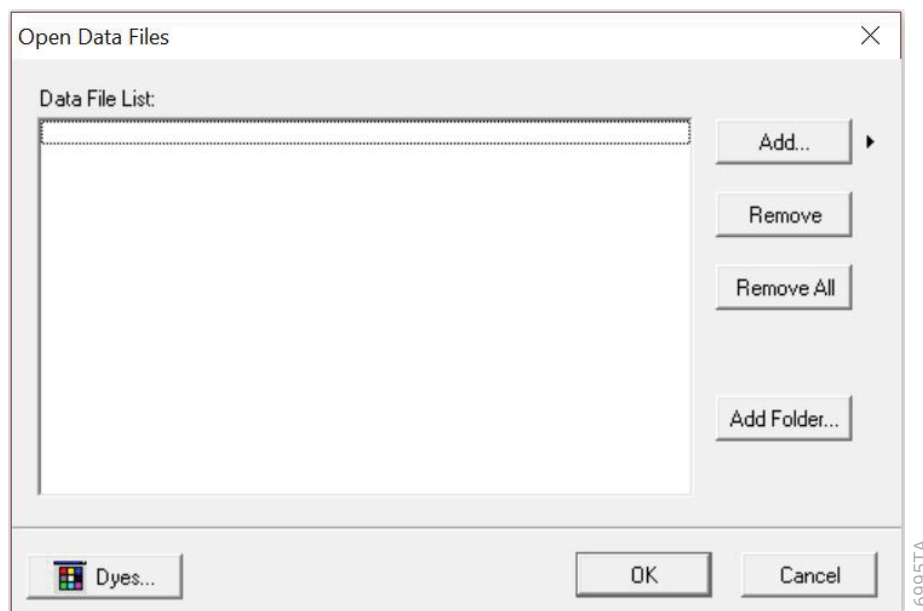

Figure 27. The GMHID-Spectrum Data File List.
4. Select **Open**, and the selected files will appear in the Data File List (Figure 27).